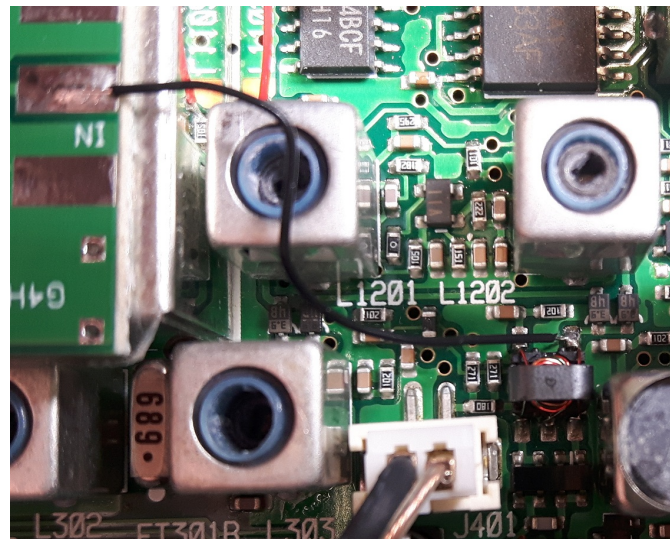
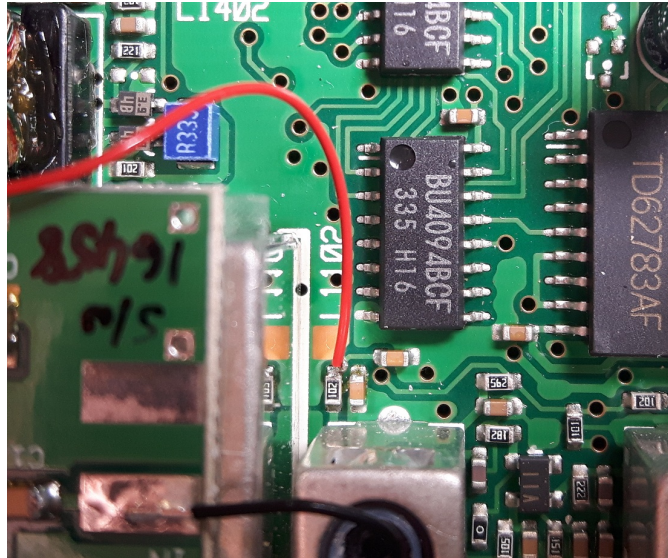

Fig 3 – PAT input connection
Fig 4 – PAT power connection
- 6 The connection points on the PCB can be accessed without removal of the PCB, but a fine tipped iron will be required to reach the small pads that must be soldered to. The black wire in Fig 3 is the PAT input signal, whilst the red wire in Fig 4 is the power, taken from the R8V line.